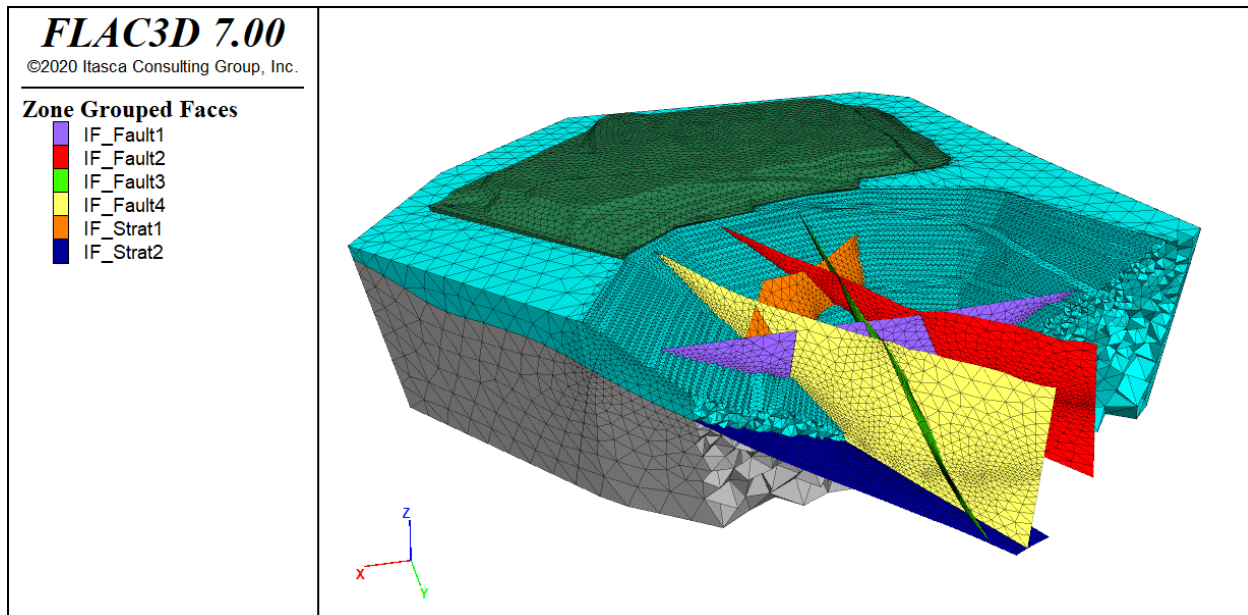

Figure 90: Tetrahedral volume mesh of open pit mine model.
37. Create a tetrahedral volume mesh in *FLAC3D* binary format. Keep all other **GVol** parameters at default values. Tetrahedral volume mesh generation is usually a fast process⁸, and it is used here. In case *Griddle* issues a message about the presence of naked edges, read the message and press **Yes** to continue. The final mesh is shown in Figure 90.